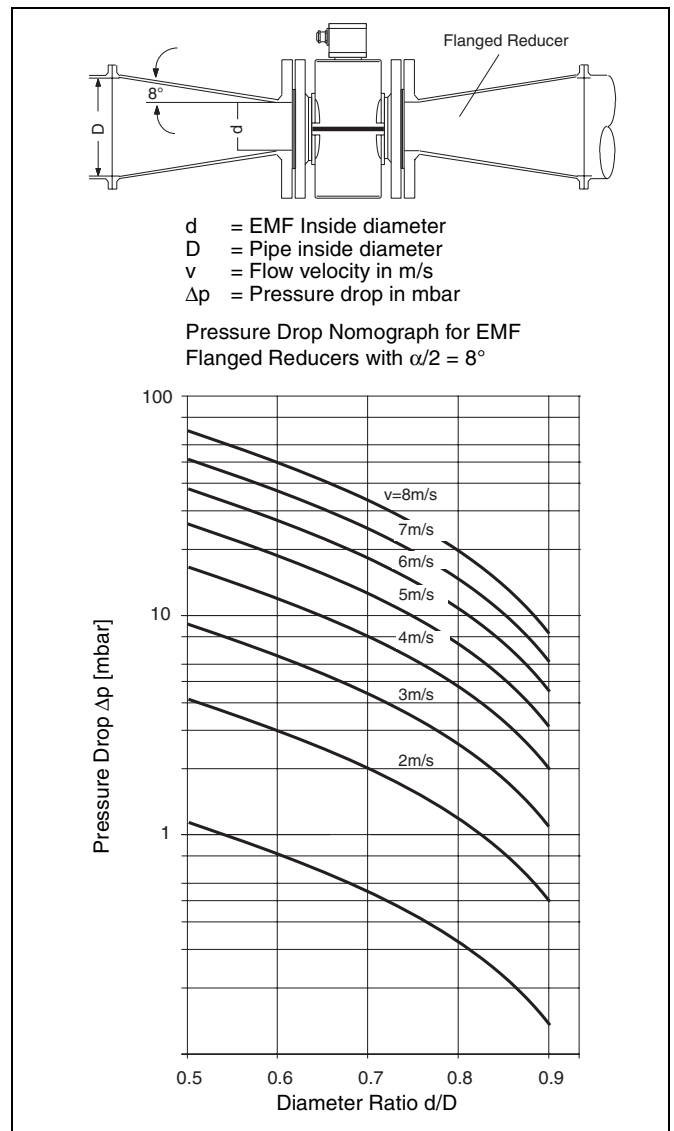

Fig. 8 Nomograph for Pressure Drop Determinations
The flowmeter primary can readily be installed in larger pipeline sizes by utilizing reducers (e.g. flanged reducers DIN 28545). The pressure drop which results from the reduction can be determined from the Nomograph Fig. 8. The pressure drop is determined in the following manner:
3. Read the pressure drop on the Y-Axis in Fig. 8 at the intersection of the "Diameter Ratio d/D" x-axis value and the flow velocity line.